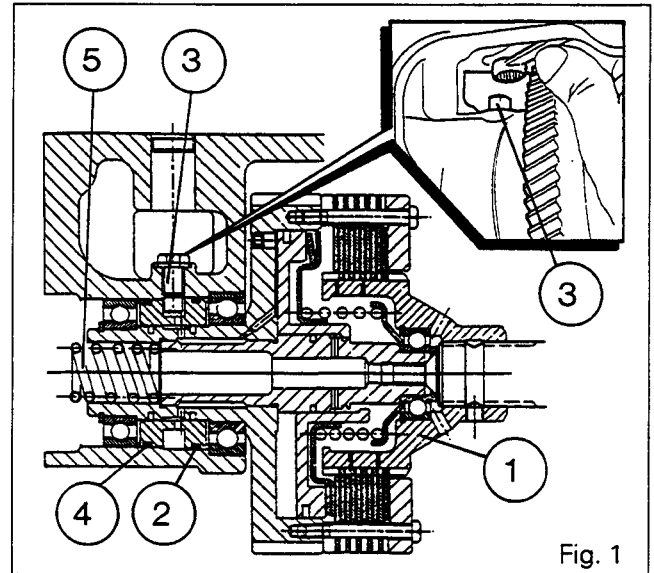
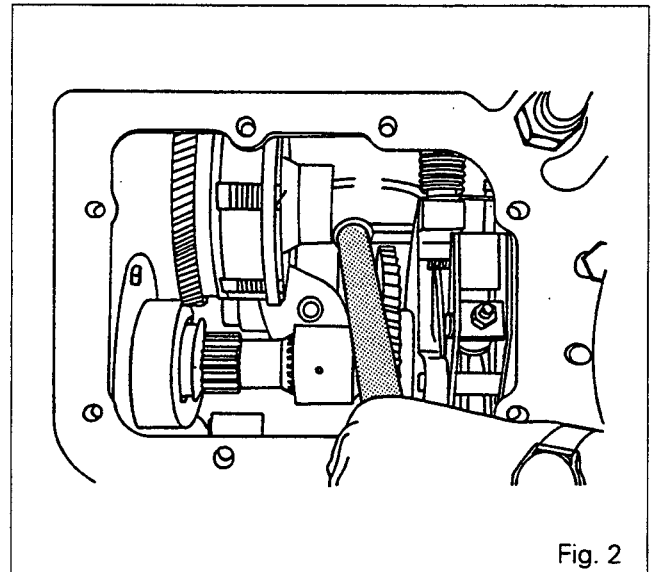

Fig. 1
Fig. 2
3. Remove the retaining screw **(3)** of the clutch **(1)**. Remove the clutch and the spring **(5)** (Fig. 1).
5. Check that the O-rings **(2)** and **(4)** (Fig. 1) have not deteriorated.
6. Place the spring **(5)** (Fig. 1) in the hollow clutch shaft and refit the clutch, pushing it as far as possible with a lever (Fig. 2) so as to compress the spring in order to fit the screw **(3)** (Fig. 1).
7. Clean the screw and smear it with Loctite 221 and tighten it with a ring spanner (Fig. 1).
14. Remove the retaining screw **(3)** of the clutch **(1)**. Remove the clutch and the spring **(5)** (Fig. 1).
16. Check that the O-rings **(2)** and **(4)** (Fig. 1) have not deteriorated.
17. Place the spring **(5)** (Fig. 1) in hollow clutch shaft and refit the clutch, pushing it as far as possible with a lever (Fig. 2) so as to compress the spring in order to fit the screw **(3)** (Fig. 1).
18. Clean the screw and smear it with Loctite 221 and tighten it with a ring spanner (Fig. 1).